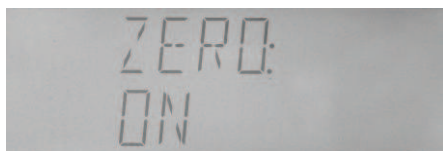

Figure 4-19 Correction switch
- a) Select "CABLE" through 【◀】 or 【▶】 key, as shown in Figure4-19.